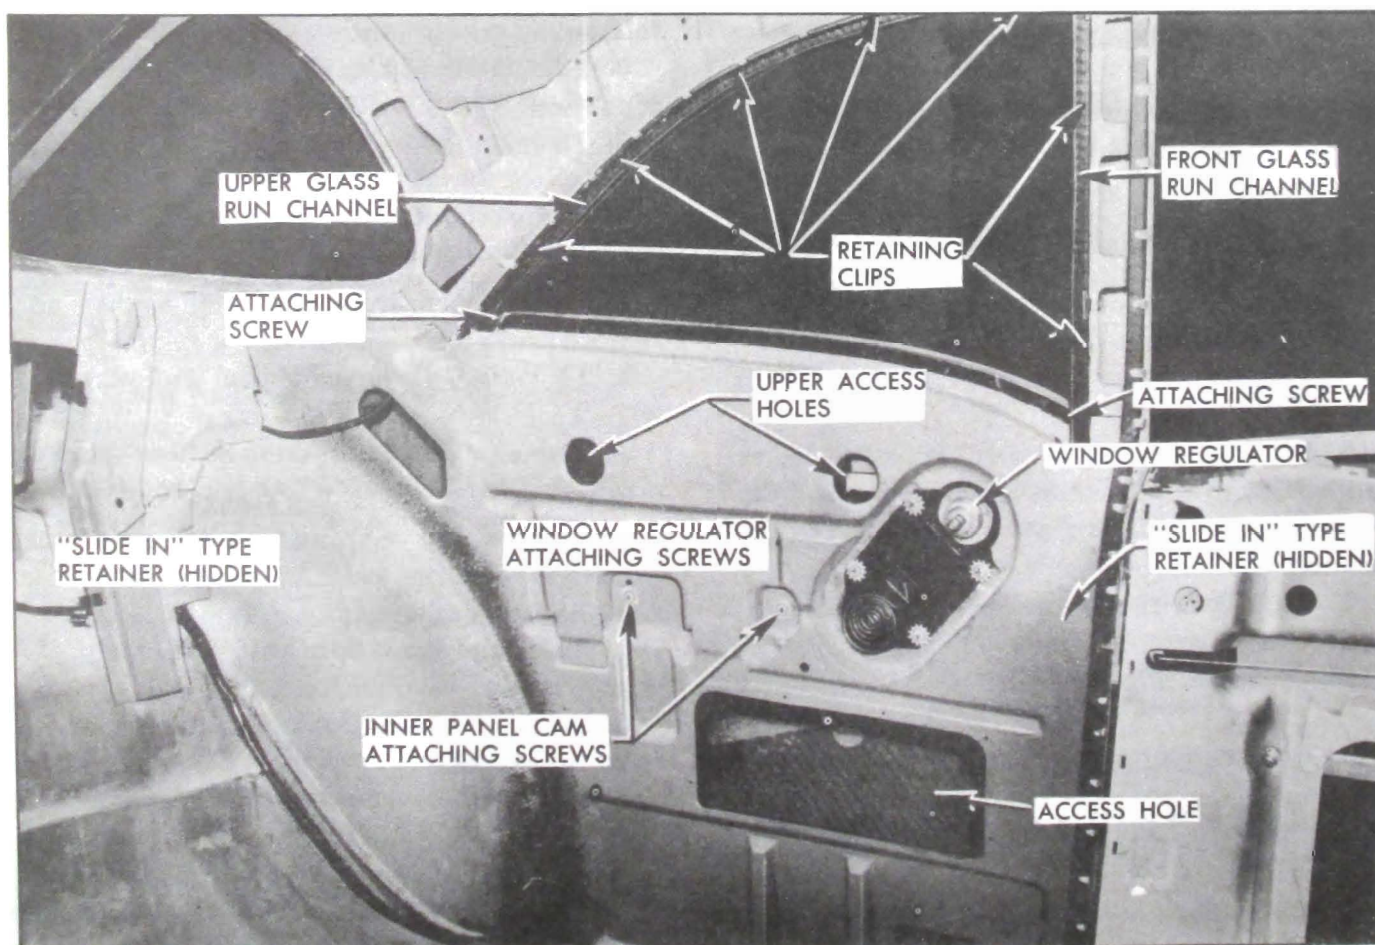

Figure 13-70—Rear Quarter Window Installation
5. To install, reverse removal procedure. See Figure 13-70.
7. To install, reverse removal procedure. See Figure 13-70.
7. To install, reverse removal procedure. See Figure 13-70. Check for proper installation of run channel in "slide in" type retainer at lower end.